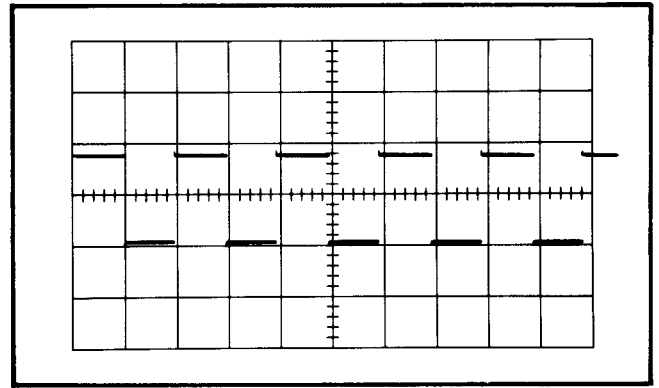

Fig. 7-22. Channel 1 trigger output amplifier gain.
c. CHECK—That the peak-to-peak amplitude of the display is two cm (1 V)  $\pm 4$  mm (see Fig. 7-22). This is a gain of  $100\times$ ,  $\pm 20\%$ .